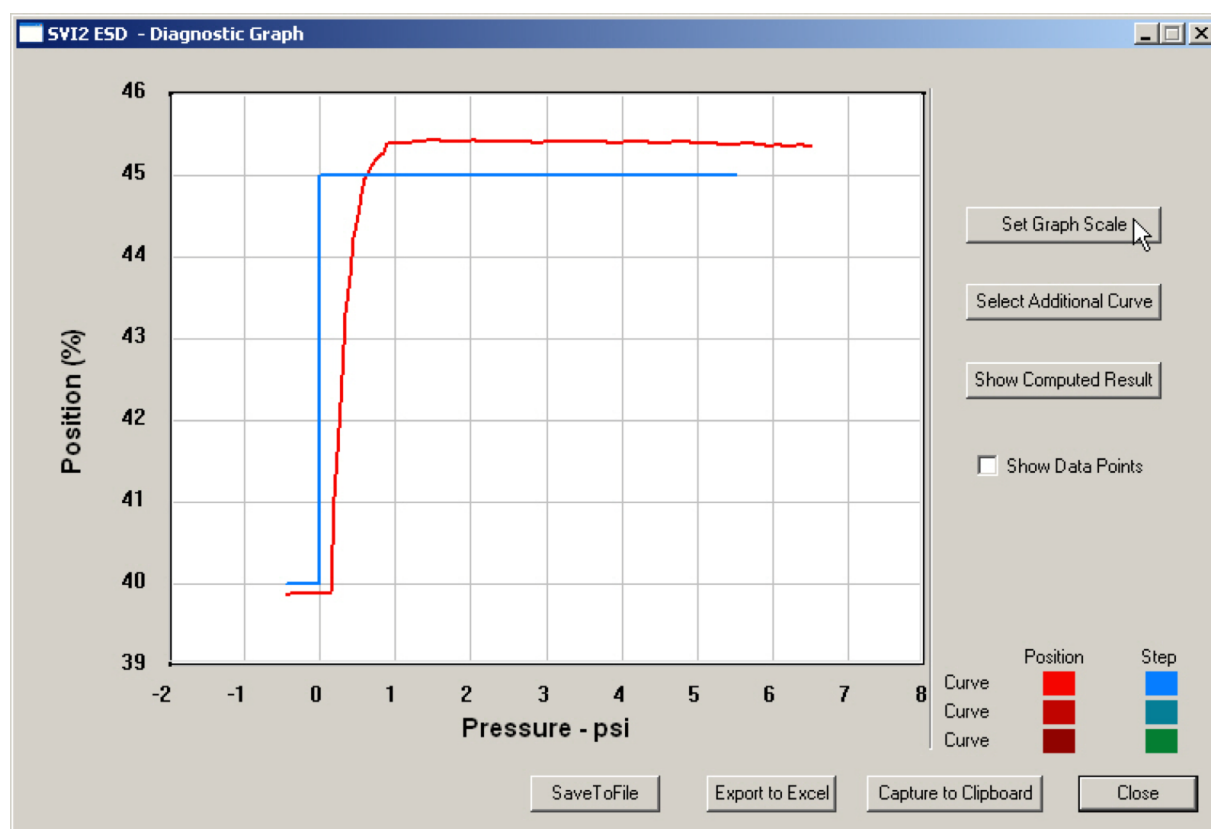

Figure 141 - Selecting Set Graph Scale
1. Select **Set Graph Scale** (*Figure 141*).